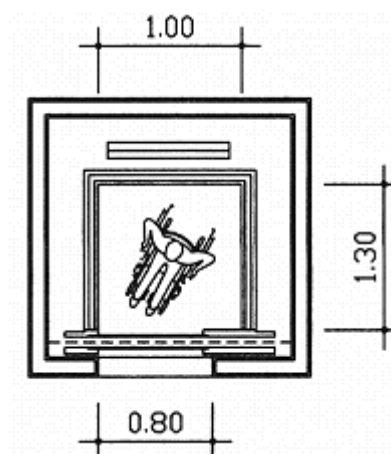

Fig. 1
- The minimum internal elevator dimensions, allowing for one wheelchair passenger alone, are 1.00 m x 1.30 m (fig. 1).